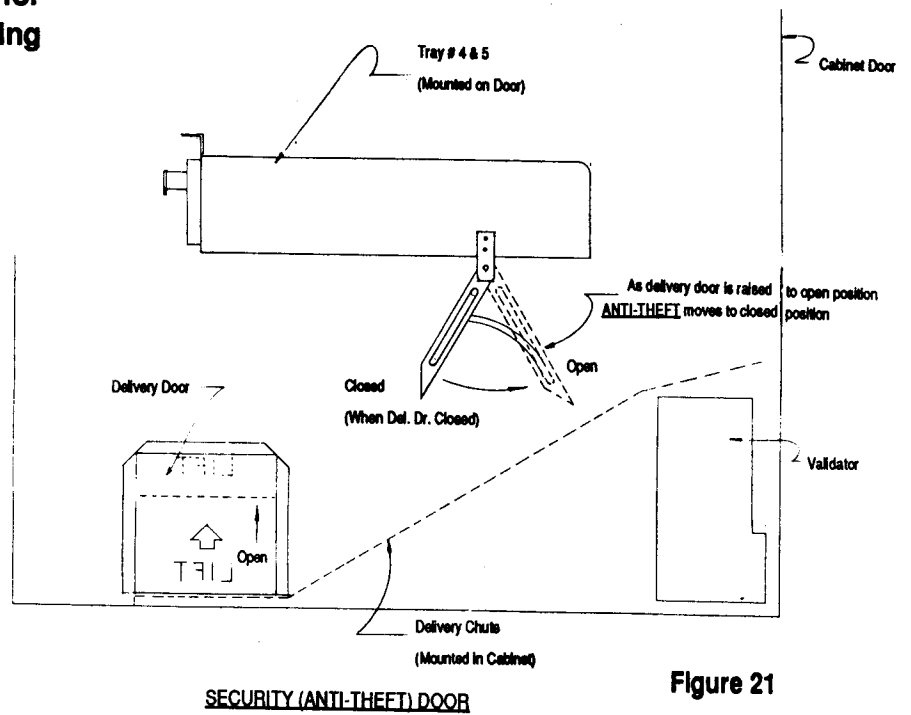

Figure 21
9. Check security door for proper operation by lifting product delivery door (see fig. 21).